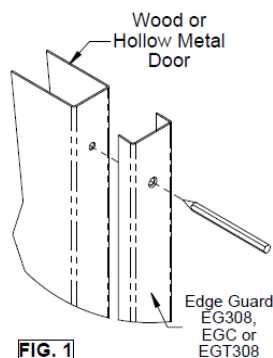

FIG. 1
1. Place the edge guard on the edge of the door. Position the top of the edge guard so that it's flush with the top of the door. (Fig. 1).